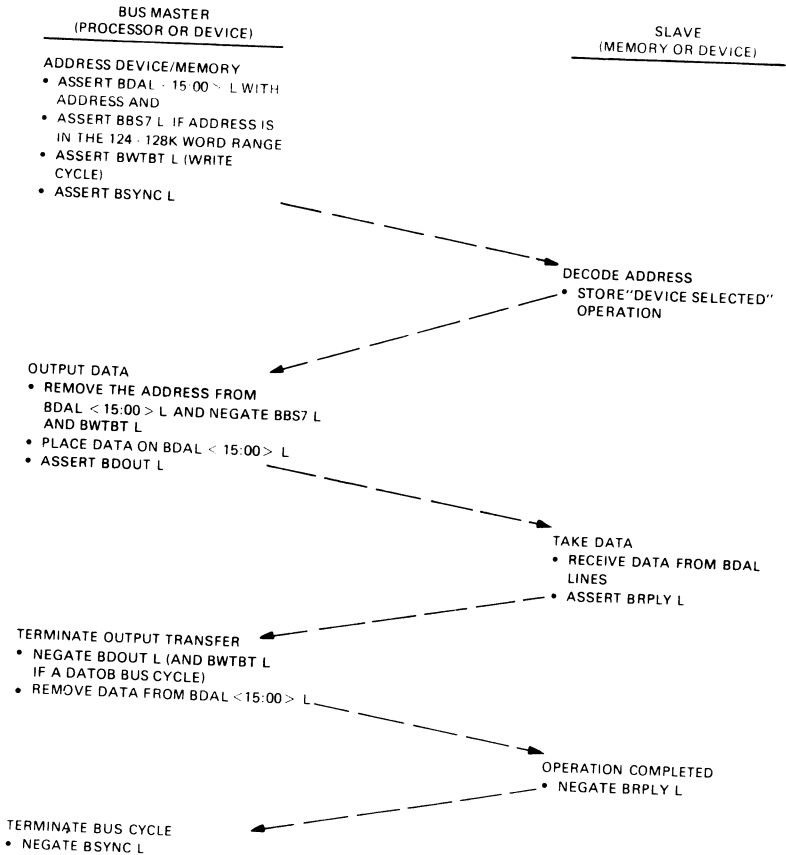

Figure 9-3 DATO or DATOB Bus Cycle
**DATO(B)** — DATO(B), illustrated in Figure 9-3, is a write operation. Data are transferred in 16-bit words (DATO) or 8-bit bytes (DATOB) from the bus master to the slave device. The data transfer output can occur after the addressing portion of a bus cycle when BWTBT L has been asserted by the bus master, or immediately following an input transfer part of a DATIO(B) bus cycle.